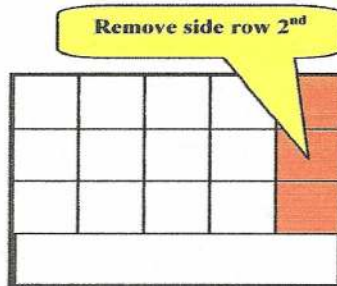

Figure 2
2. Second, break a column of glass blocks down one of the sides (**Figure 2**).